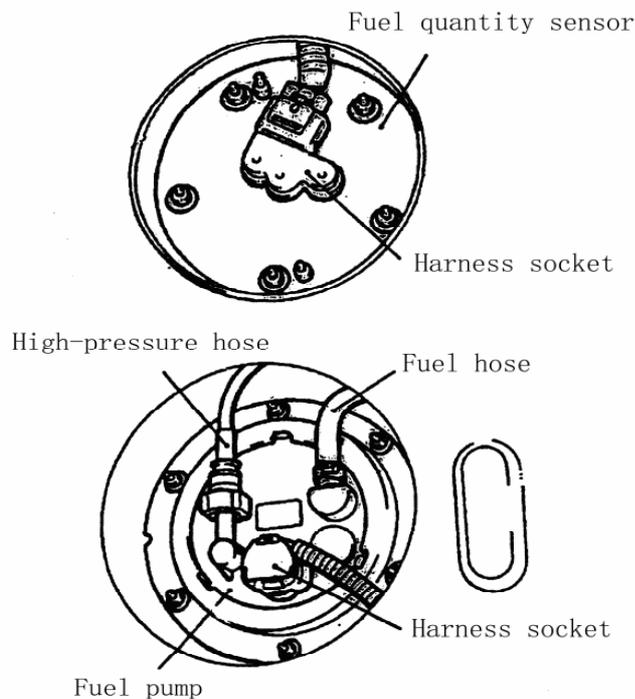

Fig. 6-3
(1) FUEL QUANTITY SENSOR AND FUEL PUMNP REPLACEMENT (see Fig. 6-3)